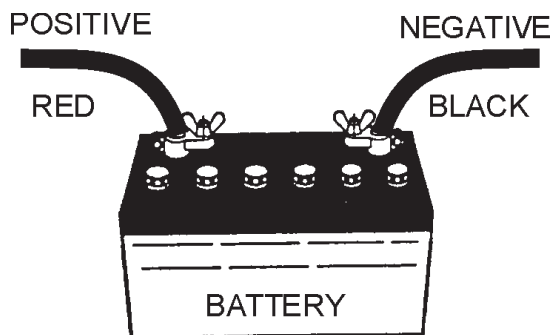

Figure 40. Battery Connections
**ALWAYS** be sure the battery cables (Figure 40) are properly connected to the battery terminals as shown below. The **RED** cable is connected to the positive terminal of the battery, and the **BLACK** cable is connected to the negative terminal of the battery.